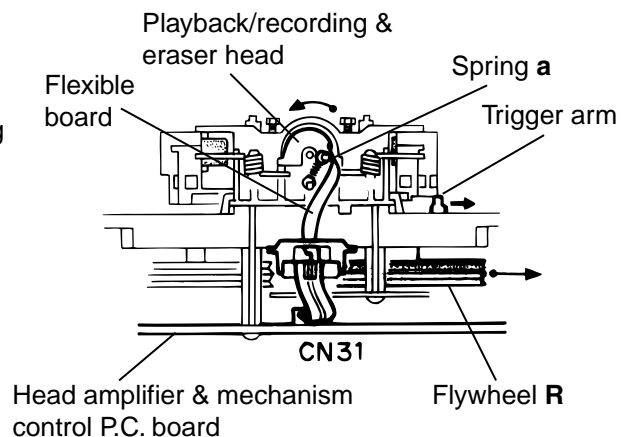
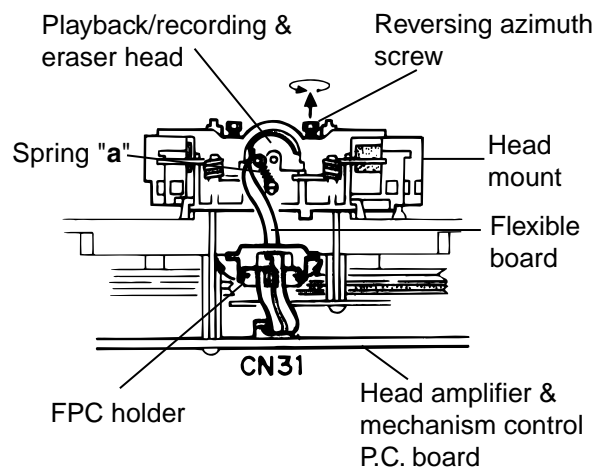

Fig. 2
Fig. 3
2. When the flywheel **R** is rotated in counterclockwise direction, the playback/recording & eraser head will be turned in counterclockwise direction from the position in Fig. 2 to that in Fig. 3.
■ Reassembling the playback/recording & eraser head (See Figs. 2 to 3)
1. Reassemble the playback head from the front of the head mount to the position as shown in Fig. 3.
4. Attach the flexible P.C. board to the chassis base, and fix it with the FPC holder as shown in Fig. 3.